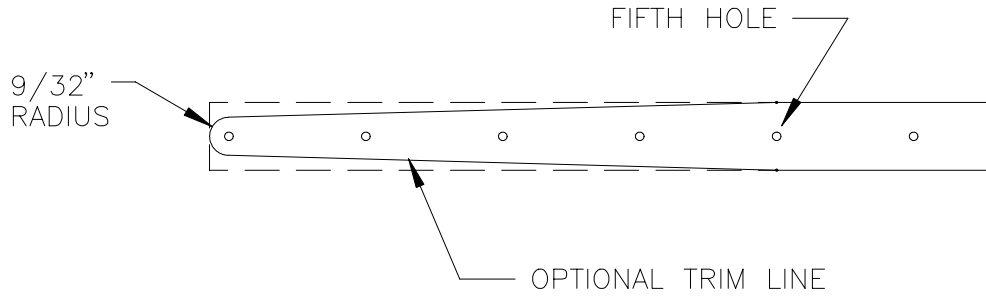

Figure 8.1.4
- 8) The ends of both Spar Caps (W-137 and W-138) may be sanded to reduce weight if desired. Figure 8.1.4.